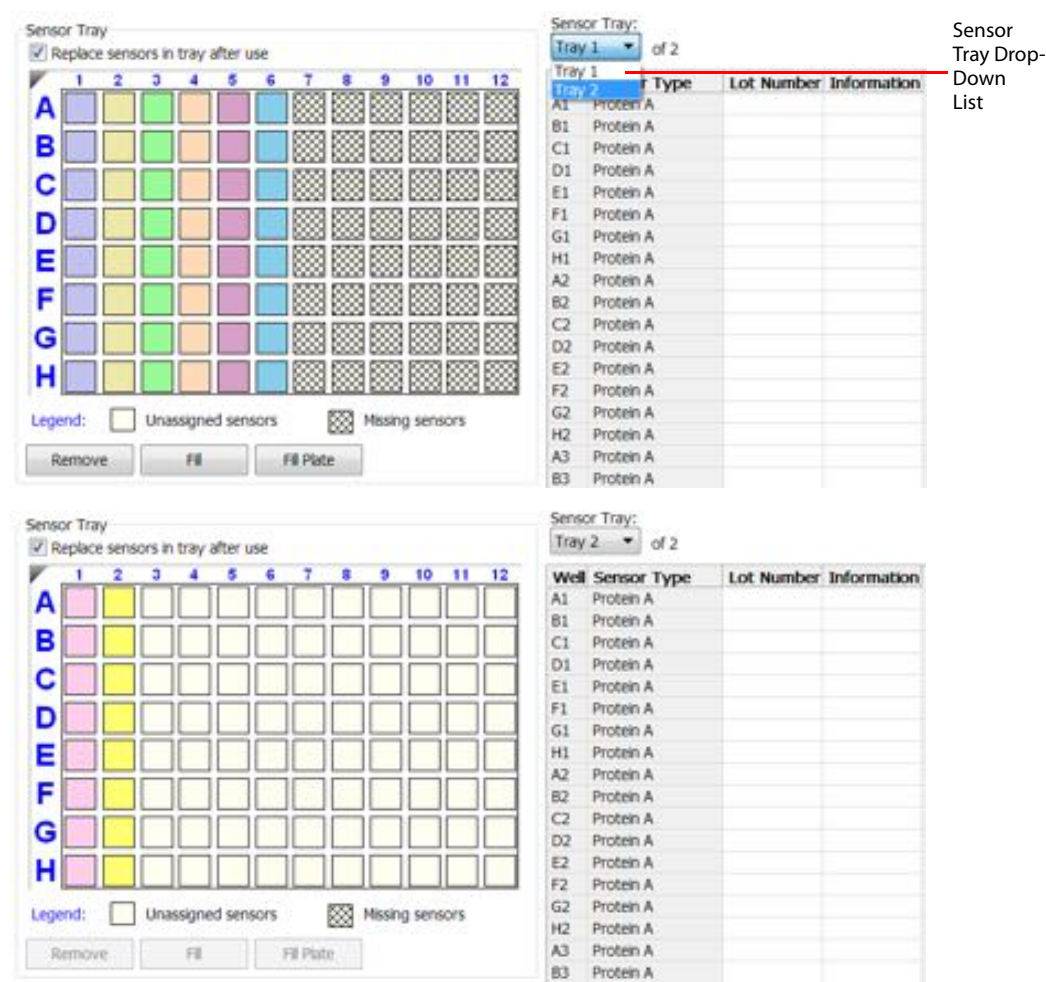

Figure 6-49: Example Assay Using One Partial Biosensor Tray and Biosensors from a Second Tray
2. To view the additional biosensor tray that is required for the assay, select Tray 2 from the **Sensor Tray** drop-down list (Figure 6-49). In the example shown, Tray 1 is a partial tray that does not contain enough biosensors for the assay. To designate a second tray, select Tray 2 from the **Sensor Tray** drop-down list (Figure 6-49 top). The **Sensor Tray Map** will then display the additional biosensors required for the assay (Figure 6-49 bottom).